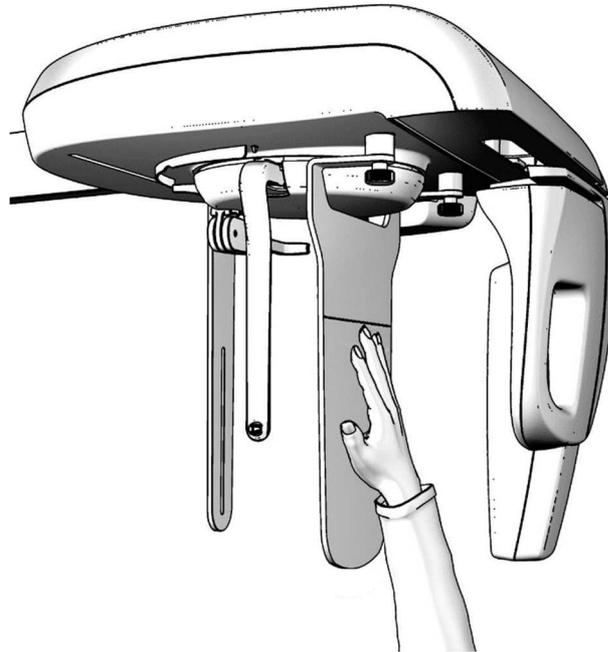

Figura 28
The image format set in order to carry out this examination is 18x22 Symmetric, not adjustable; it is therefore necessary to position the auricular rods and the nose-rest as for the cephalometric Antero-Posterior examination, so that these elements do not interfere with the X-ray trajectory. Refer to Figura 28.
4. Position the patient's hand on the positioning support (Figura 28), so that the hand is located between the sensor and the plate itself. The support leads the operator to place the body part in the centre of the irradiated area. The horizontal line should help the vertical adjustment of the hand. The common radiological procedure to assess bone growth in children, suggests placing the end of the middle finger tangent to the reference line. The patient's hand must be fully in contact with the metal plate and it must form a vertical line with the arm, in order to avoid any risk of collision with the sensor during the scanning movement.